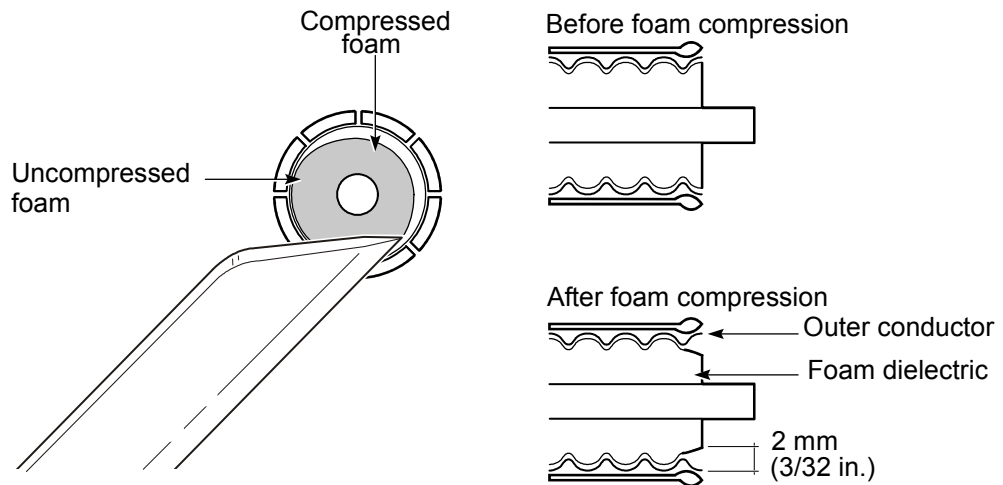

Figure 78 – Compressing the foam dielectric
9. Use a knife to compress the foam dielectric away from the outer conductor as shown in *Figure 78*.